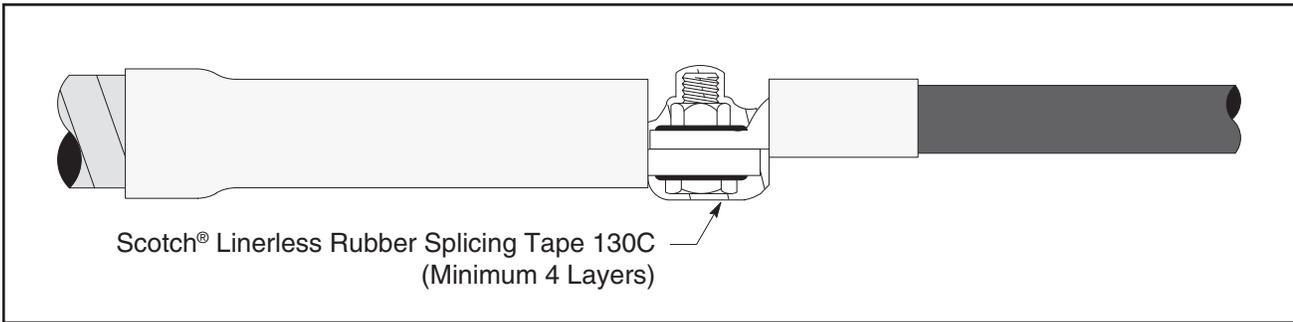

Figure 15
8.7 Slide adapters toward the bolt(s) as far as possible (Figure 15).